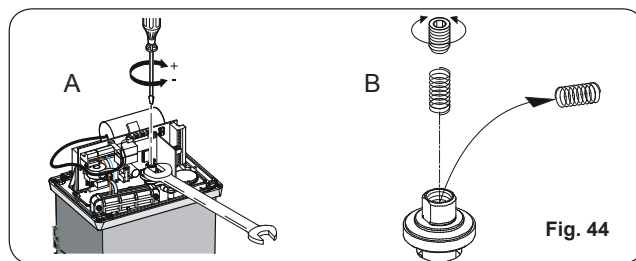

Fig. 44
- Keep the motor shaft locked with a wrench and turn the clutch adjustment screw with an Allen wrench or screwdriver as shown in Fig. 44 Ref. A.
- ⤷ The operator is supplied as standard with a clutch adjustment spring for gates up to 2200 lbs. For heavier gates, use the supplied alternative spring. For spring replacement instructions, see Fig. 44 Ref. B.